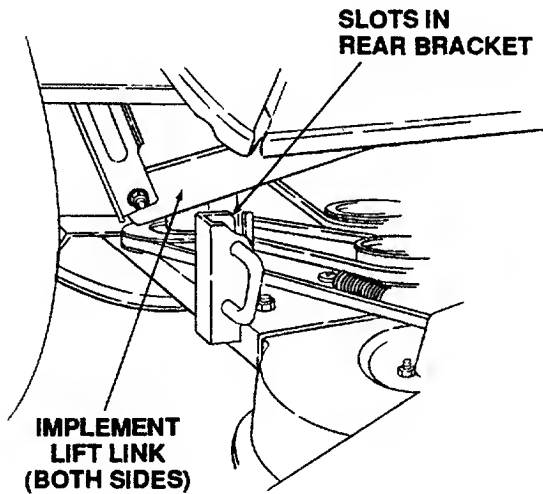

Figure 47
5. Make sure both rear bracket slots of the deck align with both implement lift links of the tractor (Refer to Figure 47).